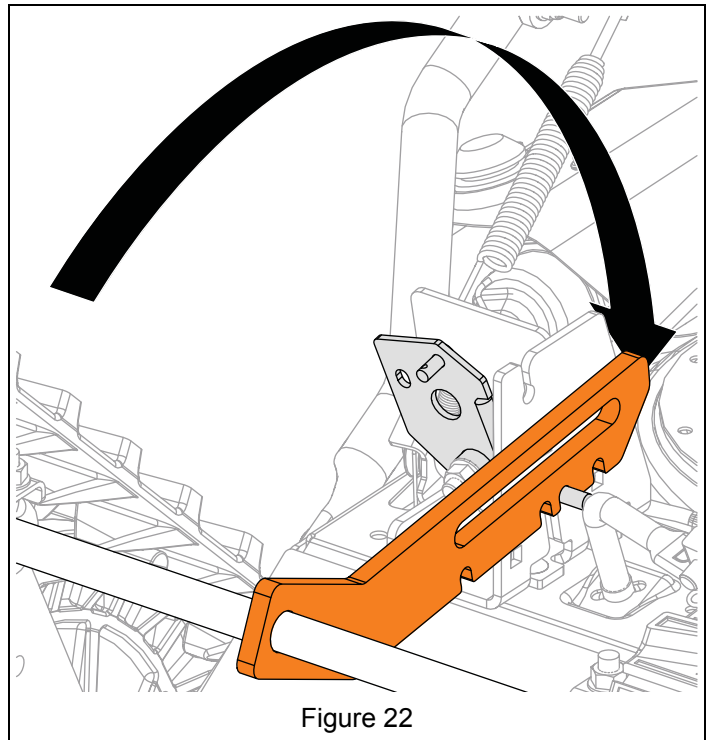

Figure 22
10. Remove hardware retaining bottom cover to frame and remove cover. See Figure 22.